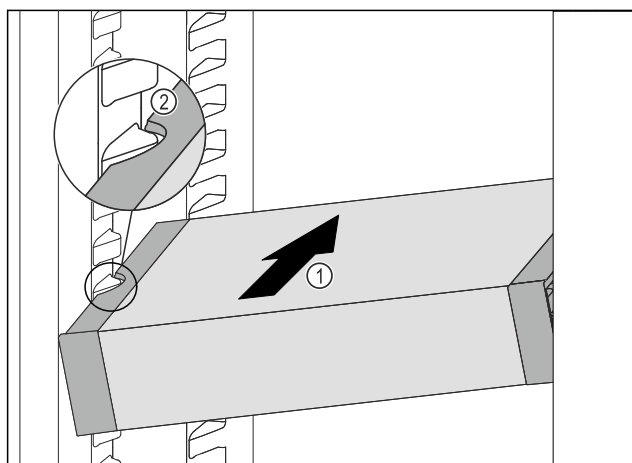

Fig. 126
- ▶ Insert the VarioSafe into the fridge section at an angle *Fig. 126 (1)* until the recesses in the side *Fig. 126 (2)* of the VarioSafe are at the level of the support rib in the fridge section.